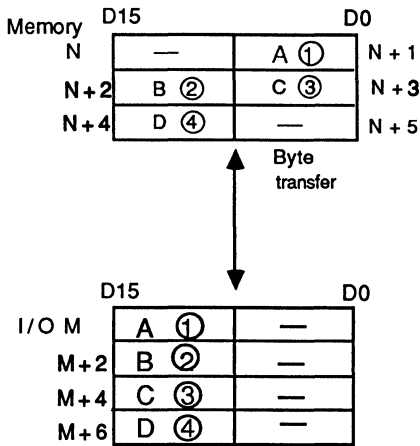

**Figure 8-17. Single Address, DPS = 16 Bits Transfer Map**
**Single Address Mode, DPS = 16 Bits:** When DPS = 16 bits, it is not necessary to switch the bus as when DPS = 8 bits, because the data bus for the memory and I/O devices are identical. However, transfer must start on an even address. If the start address is odd, the LSB will be assumed to be 0. Figure 8-17 is an example of transfer map.